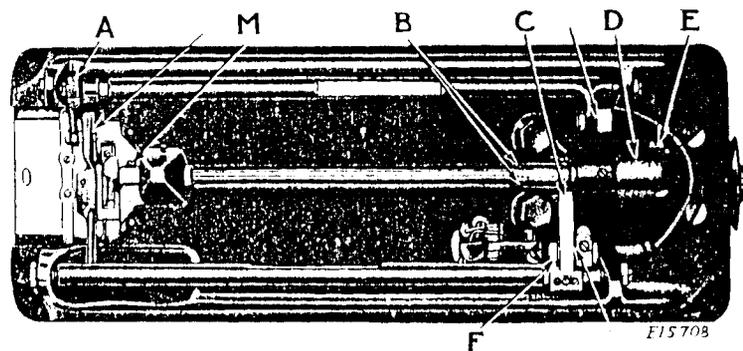

Fig.3 Base View of Machine
The looper should be set so that its point comes as close as possible to the center of the clearance in the needle without striking it on the upward stroke of the needle bar. To adjust the looper, loosen the set screw (M, FIG. 3) and move the looper toward or away from the needle as required, then securely tighten the screw (M). Make certain that the screw (M) rests on the flat provided for it on the looper shaft.
The feed dog should be set so that when it is raised to its highest point, the full depth of the teeth project above the upper surface of the throat plate. If the feed dog is not set at the correct height, loosen screw (A, FIG. 3) and raise or lower the feed dog as required, then securely tighten the screw (A).
If the looper is out of time, loosen the two screws (B, Fig.3) on the looper shaft and move the looper as required. Then tighten the screws (B).
Turn the machine back on its hinges and apply oil to the parts underneath the machine indicated by the unlabeled arrows in FIG. 3.